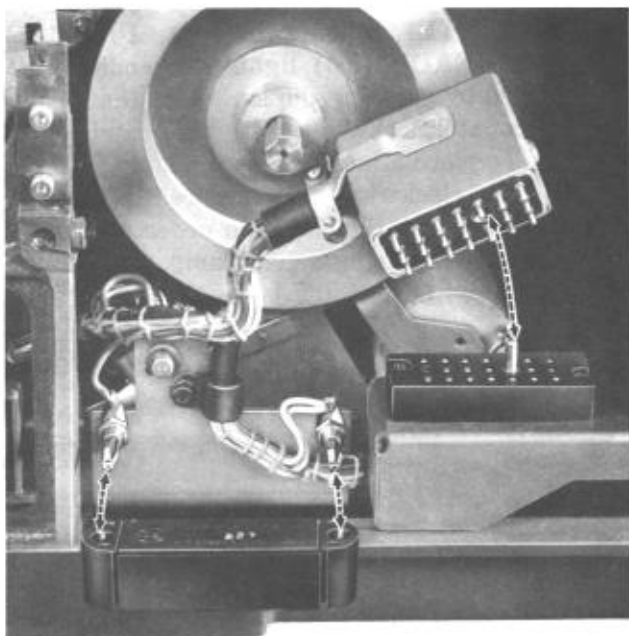

Fig. 10 — 2A Telephone Answering Set — Showing Tungsol Thermal Flasher No. 627 Removed, 10A Recorder Plug, and Power and Control Unit Jack (J1)
3.04 If the No. 627 Tungsol thermal flasher becomes defective, remove it by grasping firmly and pulling straight away from the side of the answering set (see Fig. 10).